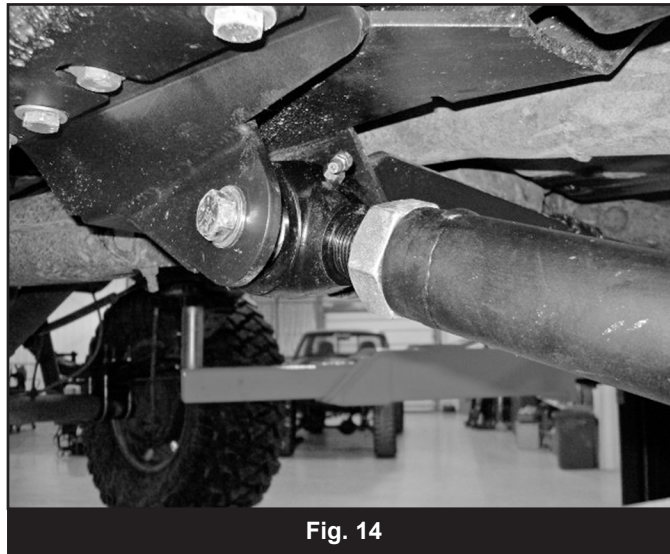

Fig. 14
34. Install the adjustable end of the lower control arms into the new lower control arm pockets in the crossmember (Fig 14). Loosely fasten the arms with 9/16" x 4-1/2" bolts, nuts and 9/16" SAE washers (BP 715).